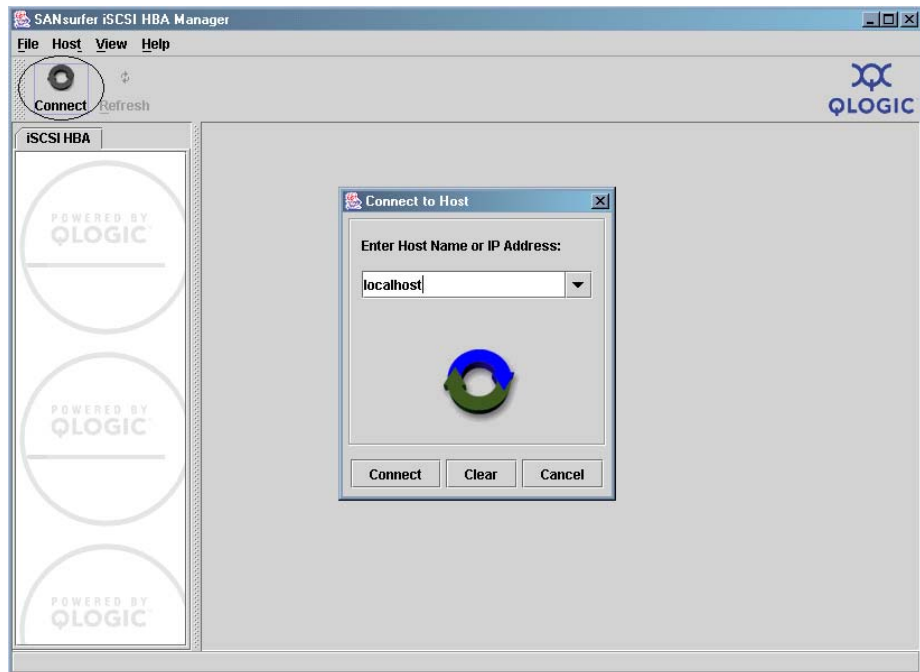

Figure 54 SANsurfer iSCSI HBA Manager, connect to host
- ◆ Click **Connect** in the upper left corner of the **SANsurfer iSCSI HBA Manager** dialog to get the **Connect to Host** dialog, as shown in Figure 54.